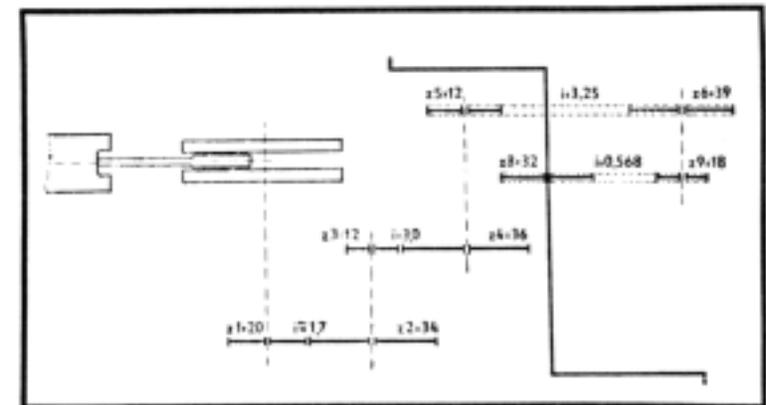
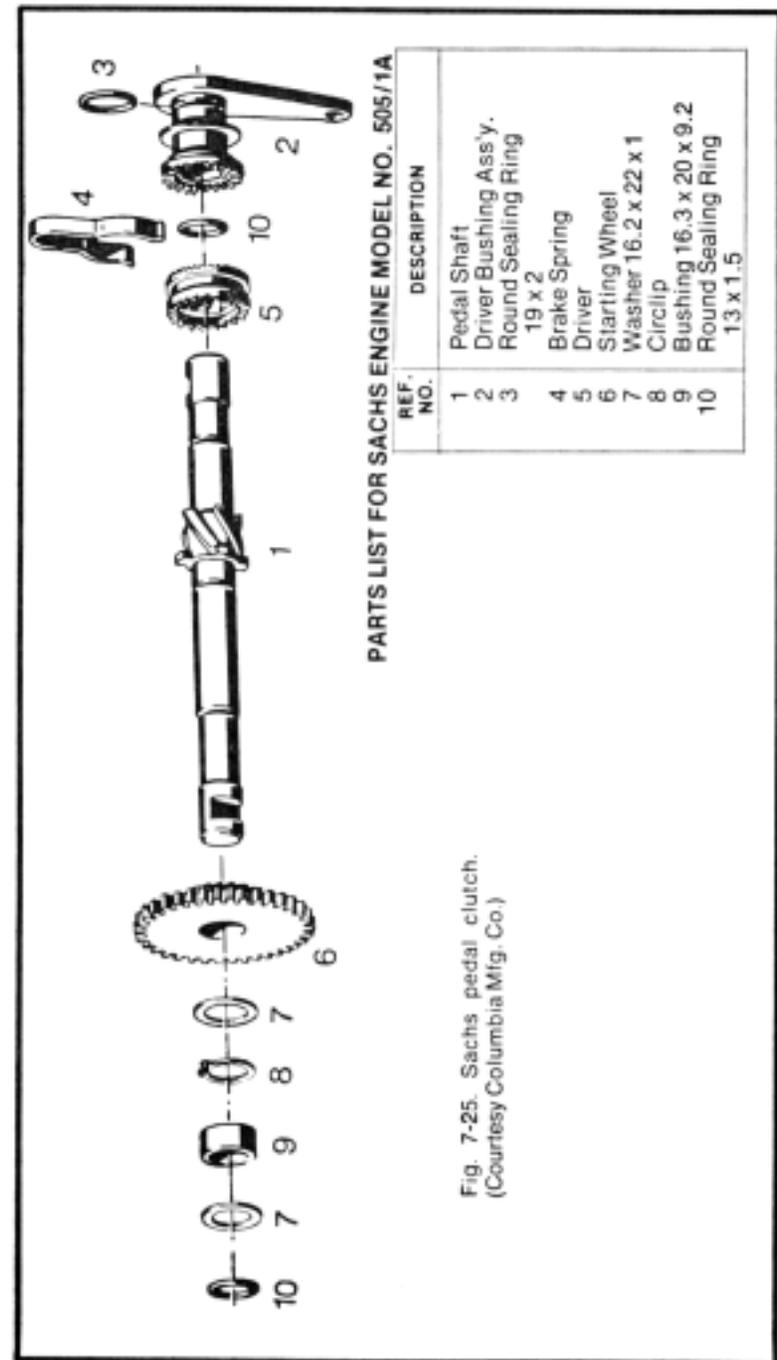

Fig. 7-13. Power flow through the Jawa transmission and rear wheel hub. The numbers represent ratios at each stage.
Fig. 7-25. Sachs pedal clutch.
Gear drives may be single-stage or multistage. Single-stage transmissions have one gear pair between the crankshaft and engine sprocket; multistage units have two or more gear pairs in tandem. Figure 7-13 shows power flow through the Jawa Babetta in schematic form. Power leaves the crankshaft by way of a 20-tooth gear meshed with a 34-tooth for a ratio of 1.7 to 1. From there power passes through a second set of gears giving an additional reduction of 3 to 1. The overall reduction is 5.1 to 1. Puch gets a similar ratio from a single stage—a tiny engine gear turns a monstrous wheel on the drive side.
Machines with a single chain to the rear wheel are fitted with a clutch on the pedal shaft. Figure 7-25 illustrates a
Pedal torque may be sent directly to the engine or it may enter indirectly, by way of the back wheel and engine chain. The indirect approach is limited to bikes with dual drive chains, and is shown in schematic in Fig. 7-13. Single-chain designs route torque from the pedals directly to the engine clutch. Returning to Fig. 7-25 for a moment, note that driver 5 is toothed on both ends. The right-hand end is for positive neutral stop; the left-hand teeth mate with teeth on the inboard side of the gear wheel (6). Torque from this gear splits in two directions: some goes to the rear wheel and some goes to spin the engine clutch drum. The Sachs engine clutch is engaged